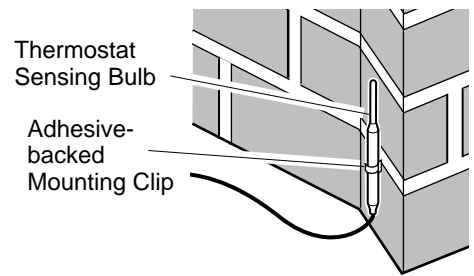
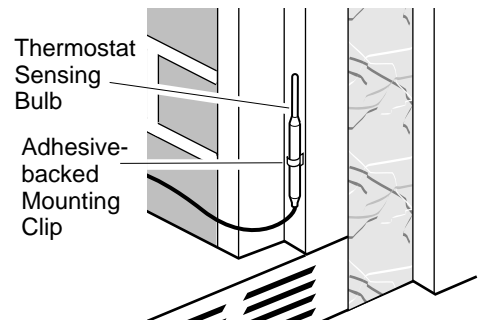
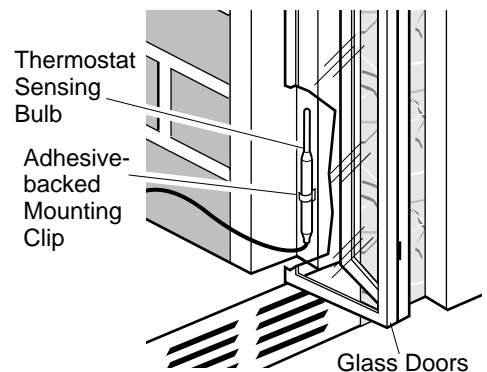

Figure 42 - Locating Thermostat Sensing Bulb on Masonry Fireplace
Figure 43 - Locating Thermostat Sensing Bulb on Factory-built Metal Fireplace
Figure 44 - Installing Thermostat Sensing Bulb behind Glass Doors
3. The thermostat sensing bulb may be located to the lower right front side of fireplace. Determine location of sensing bulb, but do not mount sensing bulb until step 5. If you have a masonry fireplace, see Figure 42 for location. If you have a factory-built metal fireplace, see Figure 43 for location. If your fireplace has glass doors, position sensing bulb directly behind door gap on right bottom side (see Figure 44).